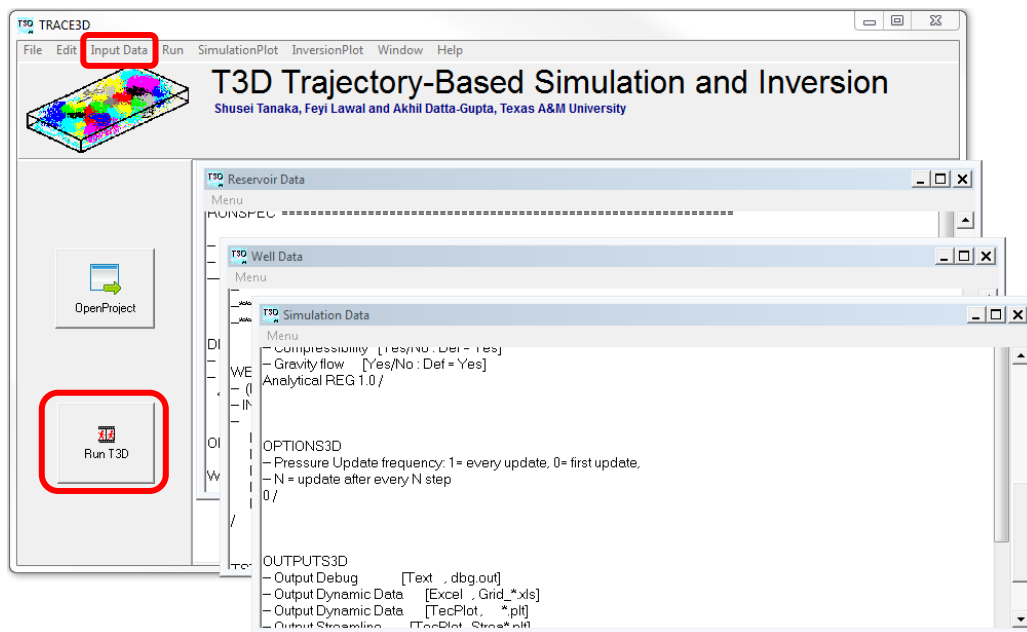

Figure 6: Input Data Panel
5. Once all data files are available, modify them as necessary from the Input Data Option. (**Figure 6**)